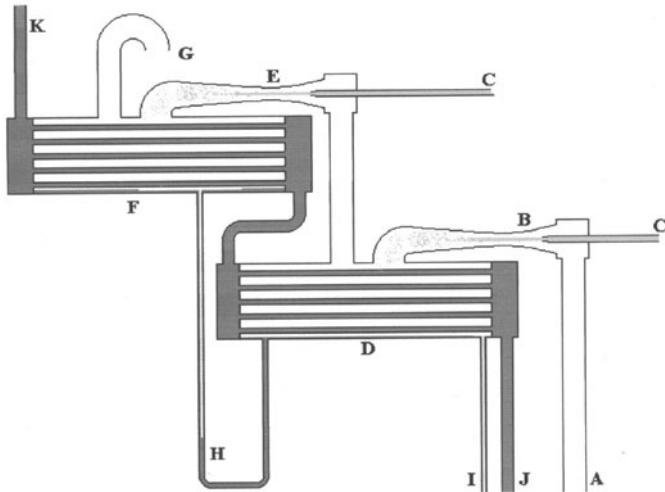

Figure 10-94. Dual jet ejectors for a condenser.
When ejectors are combined, or staged, as for a condenser ejector (Figure 10-94), they can produce an almost pure vacuum. The steam to the jets (C) entrains the air drawn from the condenser at (A), accelerating it through the venturi (B) to the first stage condenser (D), where the steam is condensed by the condensate pumped up from the condenser (J). Another jet draws the air from the first stage, accelerating it to a higher pressure through the venturi at (E), and then into the second stage condenser (F). After the steam from the second ejector is condensed, the air is vented into the boiler room at (G). The condensed steam drains from the second stage condenser through a liquid trap (H) into the first stage condenser. The liquid trap separates the two different pressures, the second stage being around atmospheric and the first stage being something in the range of 8–20 inches of mercury vacuum. The combined condensate in the first stage drains to the condenser through another liquid trap. A steam powered ejector can also lift water out of a vault,
For maximum power generation, the condenser must operate under a vacuum. Non-condensable gases, and any air that might leak in, must be removed from the condenser. That is typically done with a steam jet ejector. Motor driven vacuum pumps can also be used. The steam jet ejector (Figure 10-94) is usually two or more stages to pull as much vacuum as possible. The steam used to eject the air is then condensed in a heat exchanger using condensate. The actual vacuum achievable is dependent on the temperature of the cooling water, or air, which sets the condensation temperature. Around 27–28 inches of mercury vacuum is a typical value to shoot for. Steam will condense at 88–92°F to produce that vacuum. The cooling water will need to be around 80°F to achieve that. The ejector pulls the non-condensable gases out of the condenser in order to prevent them from raising the back pressure on the steam turbine.